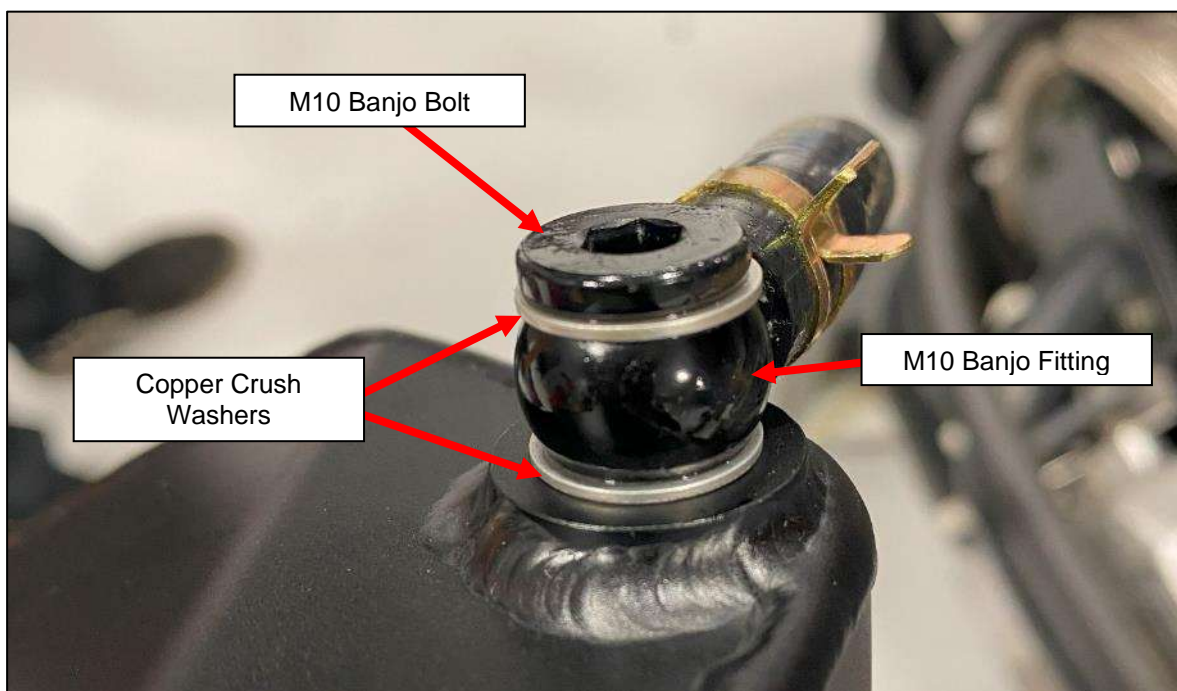

Figure 63
5. Locate (2) two 10mm Copper Crush Washers (#30), the M10 Banjo Bolt (#12), the M10 Banjo Fitting (#11), and the Coolant Reservoir. Install the Banjo Bolt through the Banjo Fitting with a Crush Washer on each side of the Banjo Fitting to the bottom of the Coolant Overflow Tank. Loosely tighten the bolt so that it can still be adjusted. *Figure 63.*
NOTE: *Figure 63* below shows Aluminum Crush Washers. The installation process is still the same.